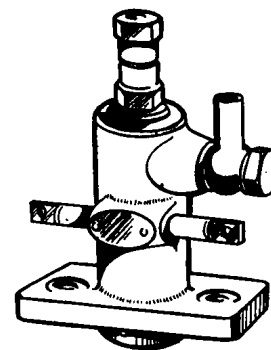

Fig. 7. Type BPF1A../05
3. BPF1A../05. Horizontal flange rectangular in shape and the inlet plug parallel with the control rod—fig. 7.